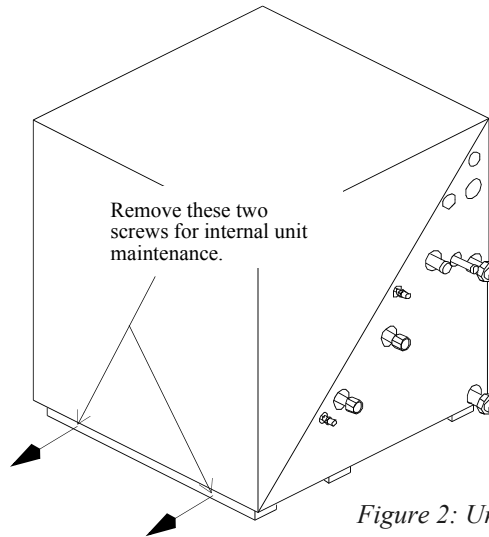

Figure 2: Unit access.
Accessibility into unit is made by removing (2) two screws at the base of the system. (See Figure 2). The top half of the cube then lifts off.